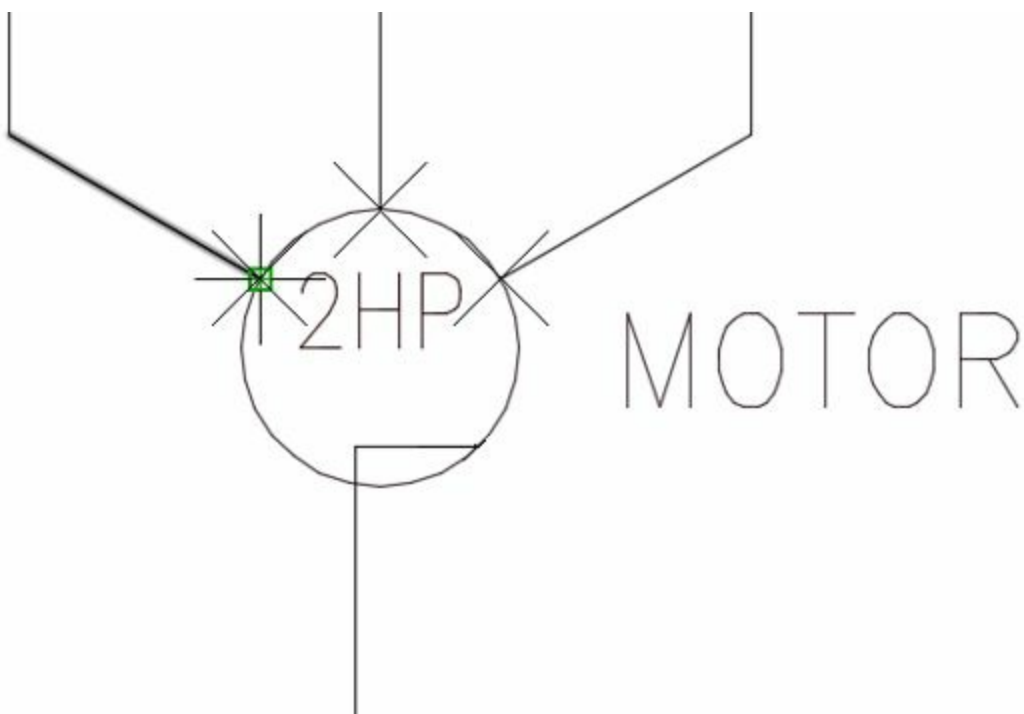

Figure-8. Jumper points selected
- Click on the **Pick** button from the dialog box. You are asked to select the jumper points on the component; refer to Figure-8. Note that you can select the terminals directly from the dialog box but in that case you will not be able to identify the wire connections to the jumpers.